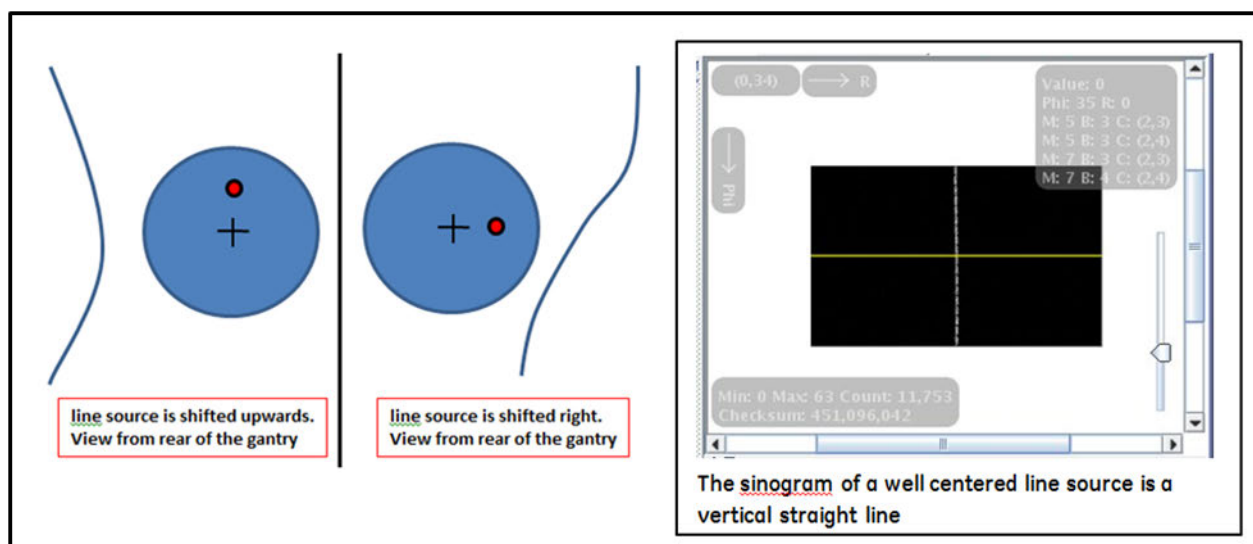

Figure 3.7: Sinogram of line source (improper alignment (left) and proper alignment (right)).
- Option: the deviation between PET and CT centers can be reviewed by opening a sinogram acquired with the line source (described below – see Figure 3.7).
- c. PRESS Show Sino icon on the right-hand side of the investigator dialog box (see Figure 3.7). Open a terminal window and use the window's edge to check that the line in the sinogram is straight.